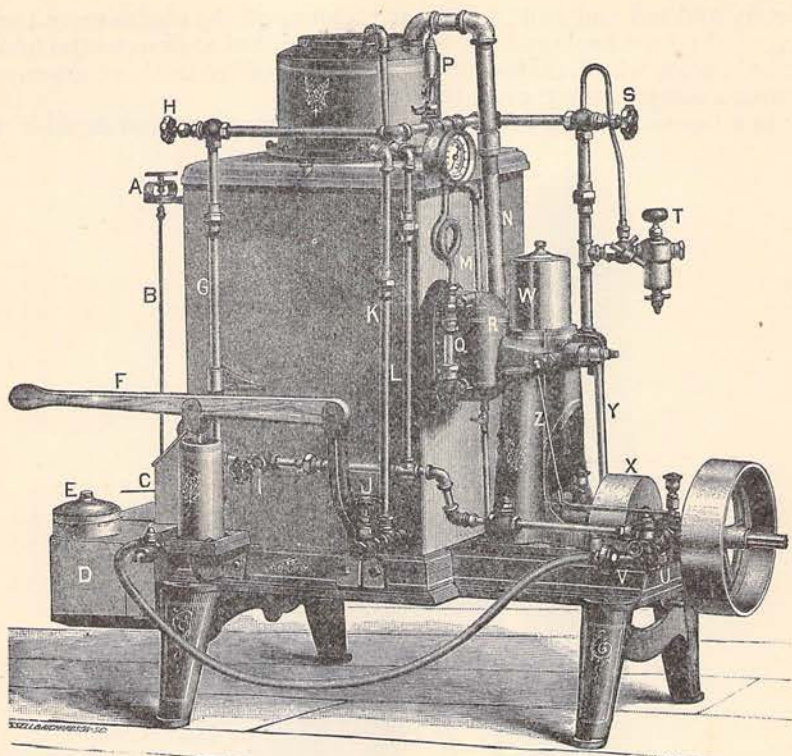

FIG. 15.
*Fig. 15* represents both the one and two horse-power Rochester Model Shipman Engine.